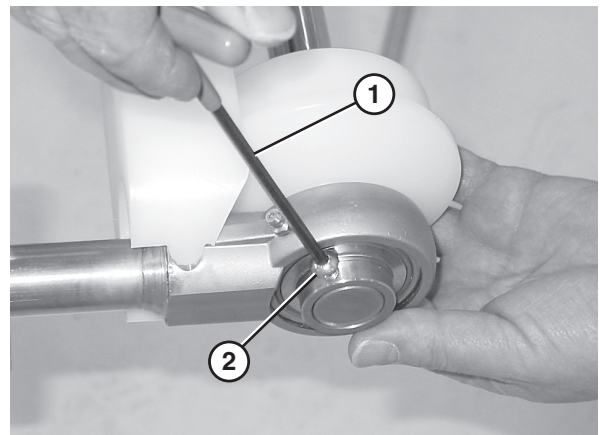

Figure 87
9. Use a hex wrench (Figure 87, item 1) to tighten the bearing shaft fasteners (Figure 87, item 2) to 54 in•lbs. Check after 24 hours of conveyor use.